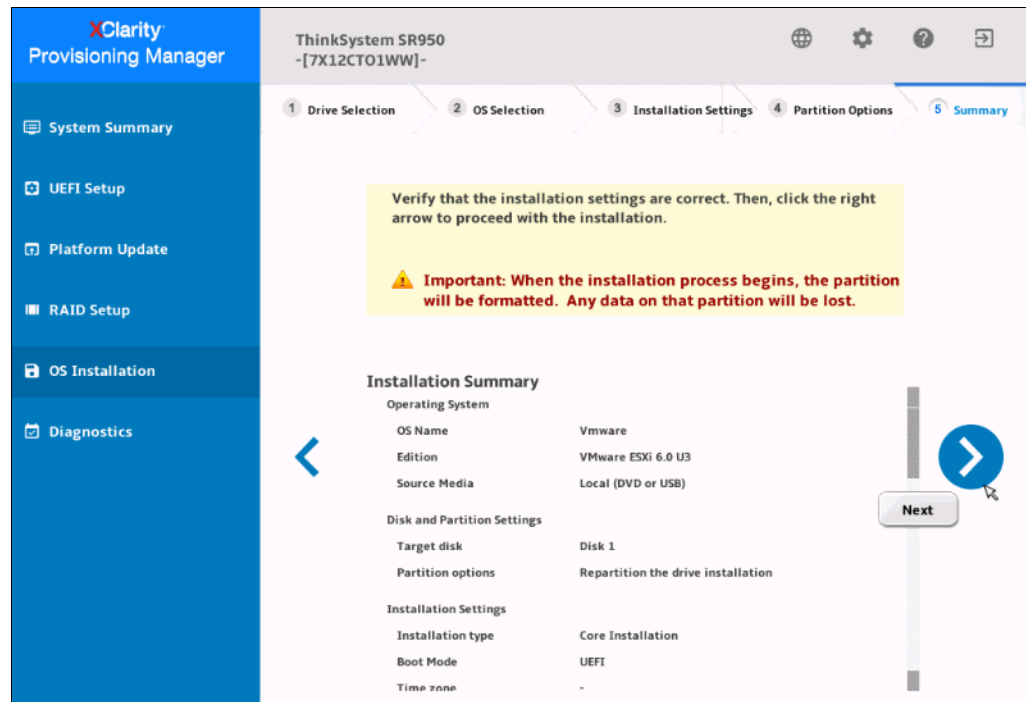

Figure 6-64 Summary of installation
9. Make adjustments to the Partitioning if required and click **Next** to the **Summary** page as shown in Figure 6-64.